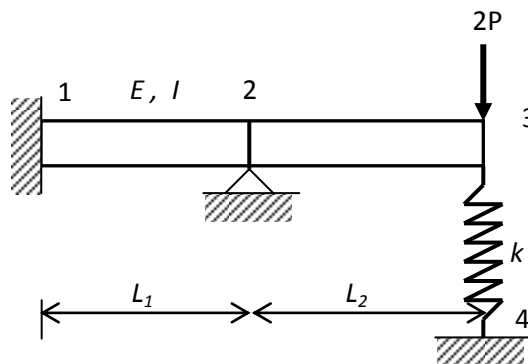

Figure 8 / Rajah 8
- (b) **Figure 8** shows a system of two beams labeled as nodes 1, 2 and 3 and a spring labeled as node 3 and 4 subjected to a nodal force of $2P = 100$ kN at node 3. The beam is fixed at node 1, simply supported at node 2 and spring supported at node 3. The spring system can only displace in axial direction and is supported at node 4. Using the value of $k = 200$ kN/m, $L_1 = L_2 = 3$ m, $E = 210$ GPa and $I = 2 \times 10^{-4}$ m⁴.